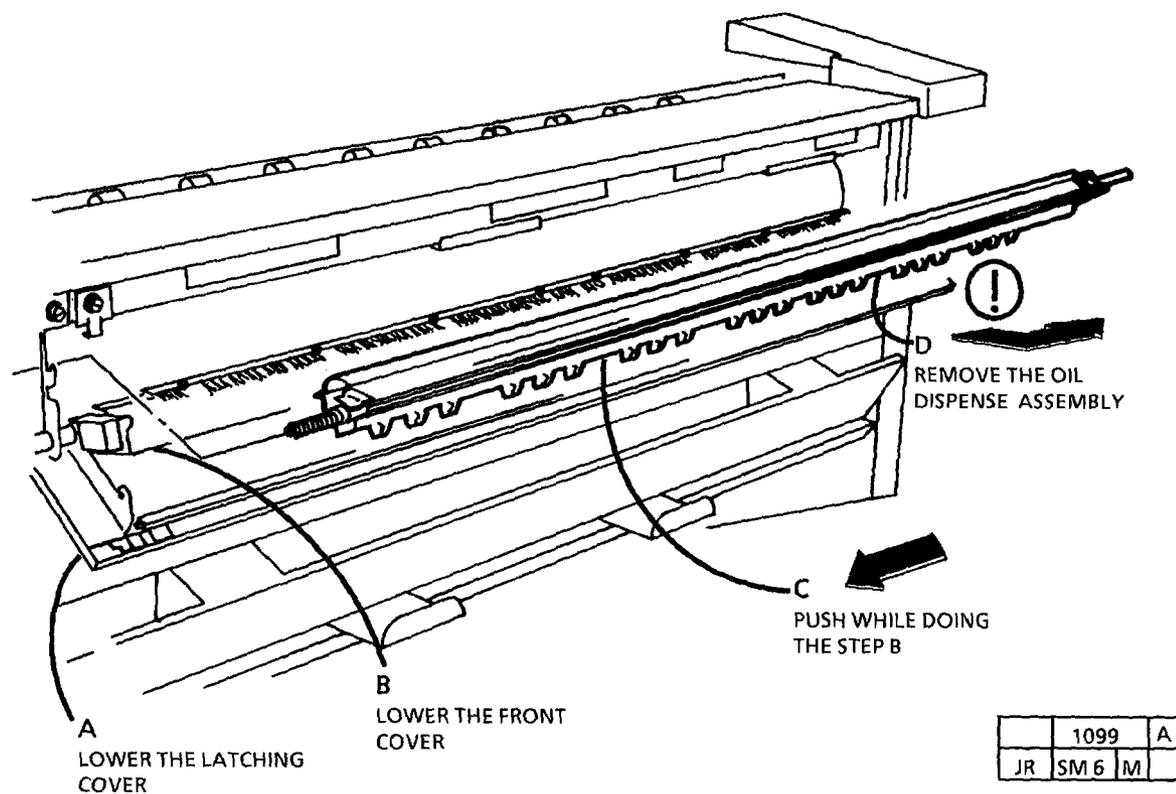

Figure 6. Removing the Oil Dispenser Assembly
7. (FIGURE 6): REMOVE THE OIL DISPENSER ASSEMBLY.